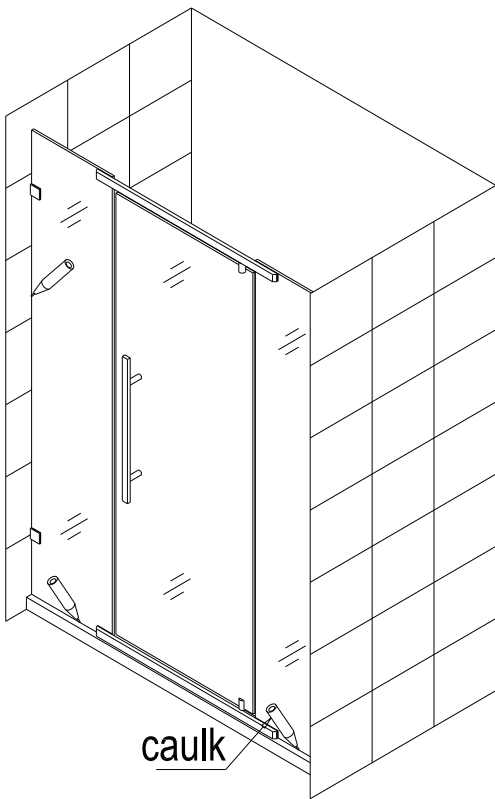

Fig.11
11. Mount the **Handle (04)** onto the door. Seal with caulk along the wall, side and the bottom of the Stationary glass panels as well as along the Pivot bar to prevent water leakage. See Fig. 11 for details.
12. You would need to install the pivot bars with Pivot assemblies on the left or the right side depending on your desired door opening side. See Fig. 11 and 12 for details.